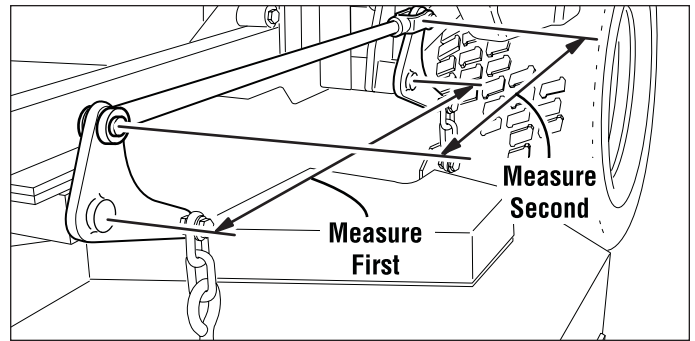

Figure 15. Check Lift Rod Timing
2. To check the lift rod timing, measure and record the distance between the lift pivots and the rod pivots. Repeat for the other side of the machine. See Figure 15.
7. See Figure 15. To adjust the lift rod, loosen the jam nut on the clevis then remove the 1/2" clevis pin fastening the clevis the the lift pivot arm. Turn the clevis clockwise to shorten the distance between the rod pivots or counterclockwise to lengthen the distance between the rod pivots. Reinstall the clevis on the lift pivot arm and secure with the 1/2" clevis pin previously removed. Tighten the jam nut against the clevis.